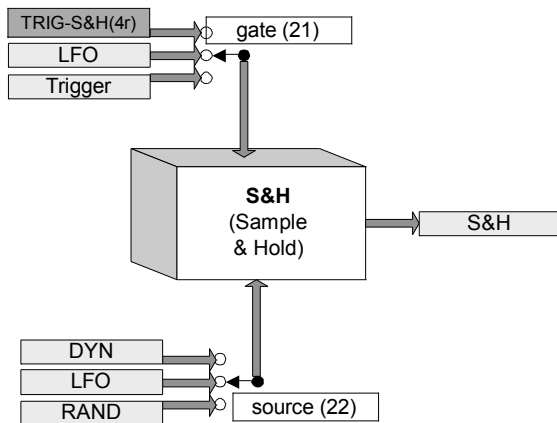

Fig. 9.3.1 Sample & Hold (S&H)
The S&H modul consists of the control elements **[gate] (21)** and **[source] (22)** on the frontpanel and **"TRIG-S&H" (4)** on the rearpanel. A *Sample & Hold* uses an input (*source*), an *output* and a trigger input (*gate*). The input can be fed by any altering voltage signal (audio or modulation). As soon as the *gate* is triggered by a pulse, the current voltage level at the input is *sampled*, transferred to the output and *held*. Continuous signals can be "sliced" with this module. Fig. 9.3.1 shows the structure of the S&H unit.